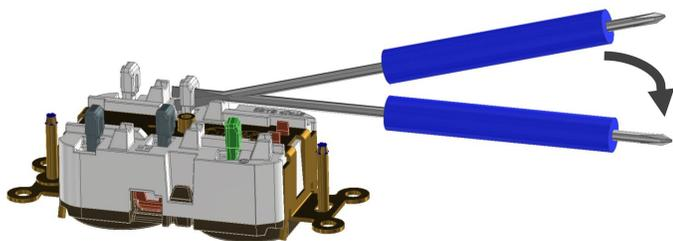

Fig. 4
- To lift a plunger from the down to the up position, insert a screwdriver into the plunger slot. Using a 1/8" - 3/16" screwdriver, and the provided leverage point, lift the plunger until it is in the up position – see Fig. 4. **DO NOT USE PLIERS TO PULL PLUNGERS.**